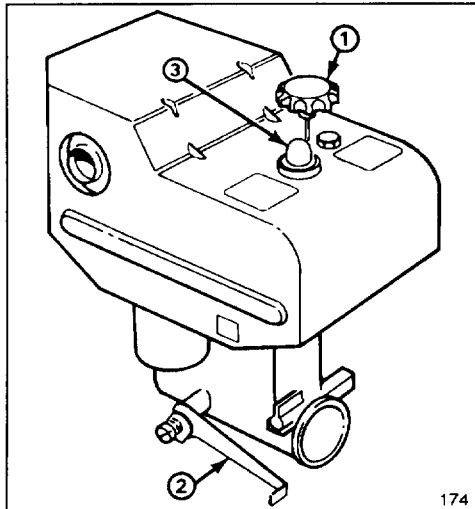

Figure 13
**Throttle** (Fig. 13)—Pulling the throttle upward increases the engine speed.
**Choke** (Fig. 13)—Choke is located on left side of engine. Push choke down
**Primer** (Fig. 13)—Press primer to pump small amount of gasoline into engine for improved cold weather starting.
4. Move choke to ON choke position (Fig. 13).
6. Depress primer (Fig. 13) five times.
8. After engine starts, immediately move choke (Fig. 13) to 3/4 position. As engine warms up, move choke to 1/2 position; then to OFF position. If engine falters, return choke to 1/2 position. When engine warms sufficiently, move choke to OFF position.